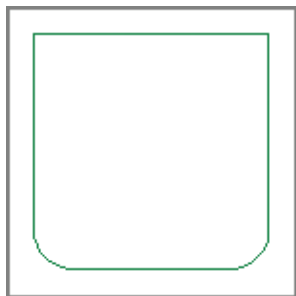

FIGURE 7.2 Using Fillet to round two corners
6. Press the spacebar to repeat the FILLET command. Click the bottom and right edges to create another arc. Figure 7.2 shows the result.